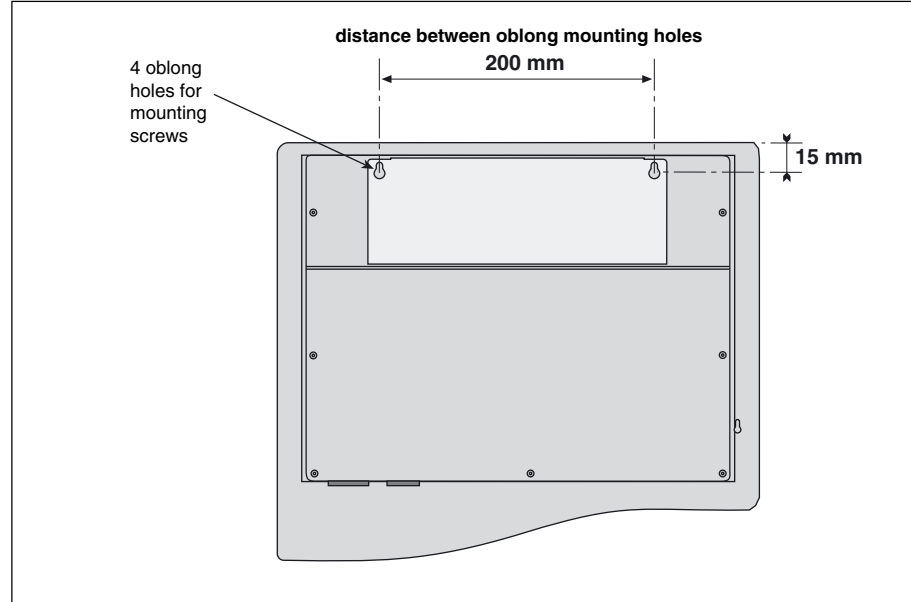

Fig. 11
- ▶ place the enclosure in its position on the vertical wall and mark the location of the screws (at the top of the oblong holes marked on figure 11);